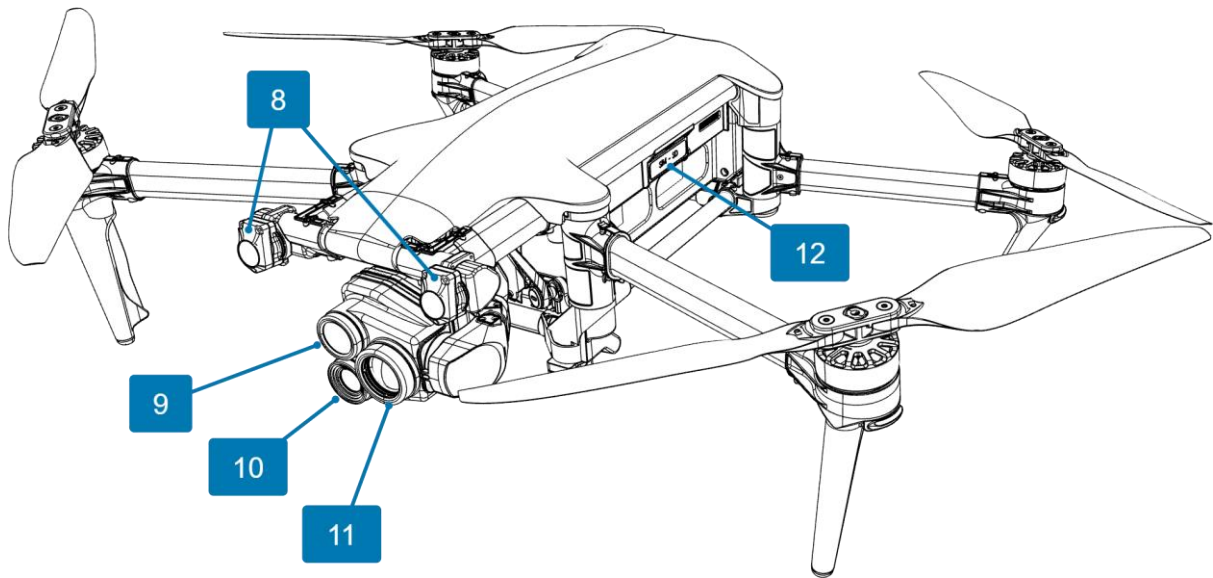

Figure 10: ANAFI UKR front view unfolded
- Nano SIM card port (No. 12 in Figure 10) - Used for 5G connectivity (ANAFI UKR GOV, and ANAFI UKR XLR only)
- MicroSD card port (No. 12 in Figure 10) - Used for external media storage.